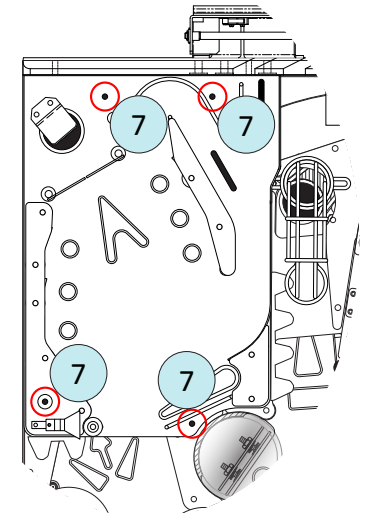

Figure E3. Castle playfield removal, illustration 3.
7) Using a 1/4" nutdriver or #2 Phillips screwdriver, remove the 4 screws holding the castle playfield down (see figure E3).